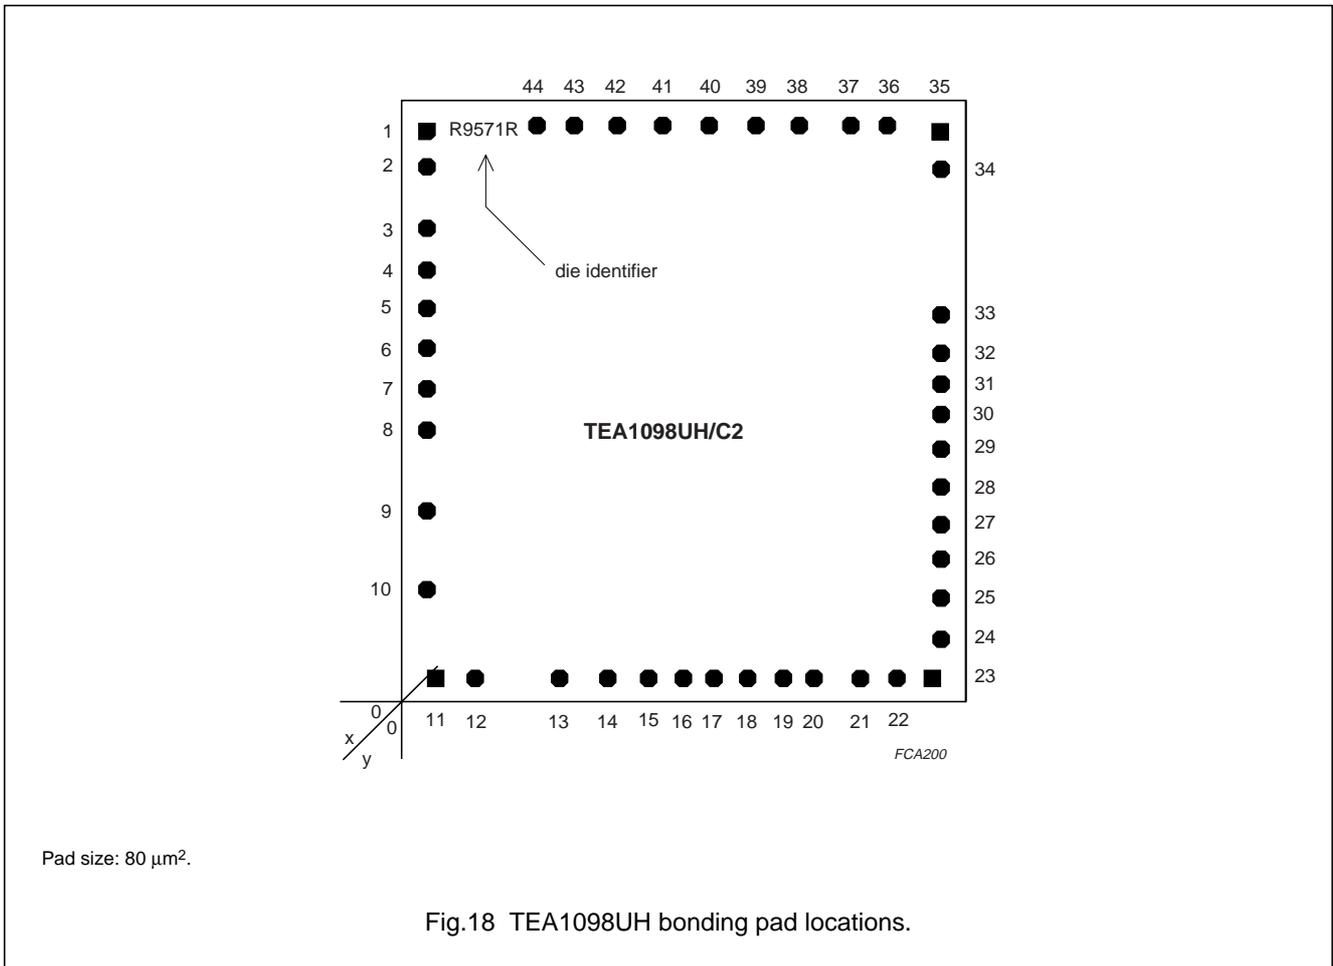

Fig.18 TEA1098UH bonding pad locations.
- All x/y coordinates (in μm) represent the position of the centre of the pad with respect to the origin ($x/y = 0/0$) of the die (see Fig.18).